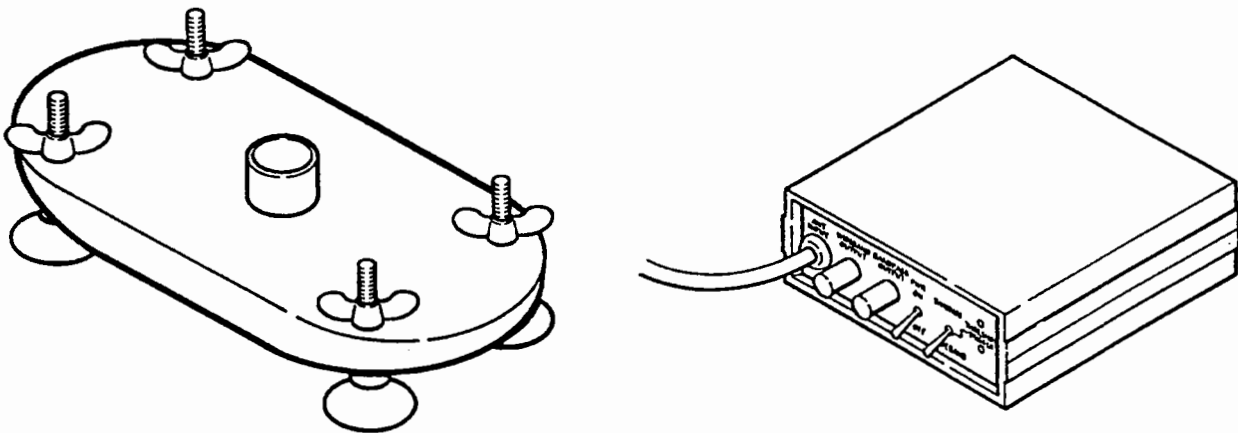

Figure 5-1. Skinmapper
- b. Use a BFG FlightSystems Skinmapper (P/N 78-8060-5859-6) to verify that the selected bench antenna location is free of electrical interference. (See figure 5-1.)